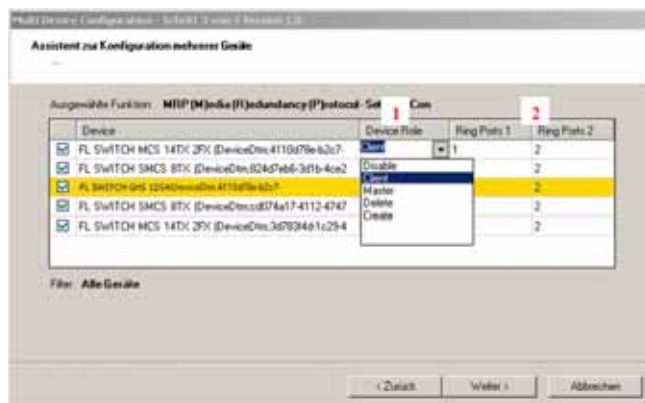

Figure 4-22 Specifying the MRP role
- In the table, you can specify whether the specific device is a "Master" or "Client" (see Figure 4-22/item 1)
- In the table, you can specify the ring ports for each device (see Figure 4-22/item 2)
- Step 2: Select the *Activate MRP Configuration* option (see Figure 4-22/item 2)